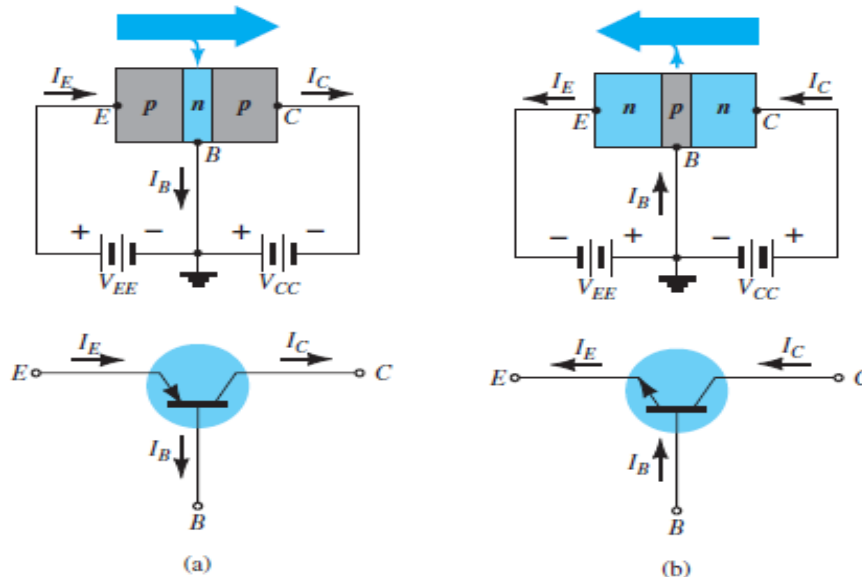

Figure 8-1
The transistor is a three-layer semiconductor device consisting of either two n - and one p - type layers of material or two p - and one n -type layers of material. The former is called an ***npn transistor***, while the latter is called a ***pnp transistor***. Both (with symbols) are shown in Fig. 8-1. The middle region of each transistor type is called the ***base (B)*** of the transistor. Of the remaining two regions, one is called ***emitter (E)*** and the other is called the ***collector (C)*** of the transistor. For each transistor type, a junction is created at each of the two boundaries where the material changes from one type to the other. Therefore, there are two junctions: ***emitter-base (E-B) junction*** and ***collector-base (C-B) junction***. The outer layers of the transistor are heavily doped semiconductor materials having widths much greater than those of the sandwiched p - or n -type material.